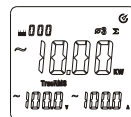

Figure 7-6
- As shown in Figure 7-6, please press “ Σ ” key to measure total three-phase power. Current measured power of the 3rd phase location also shall be calculated and saved.